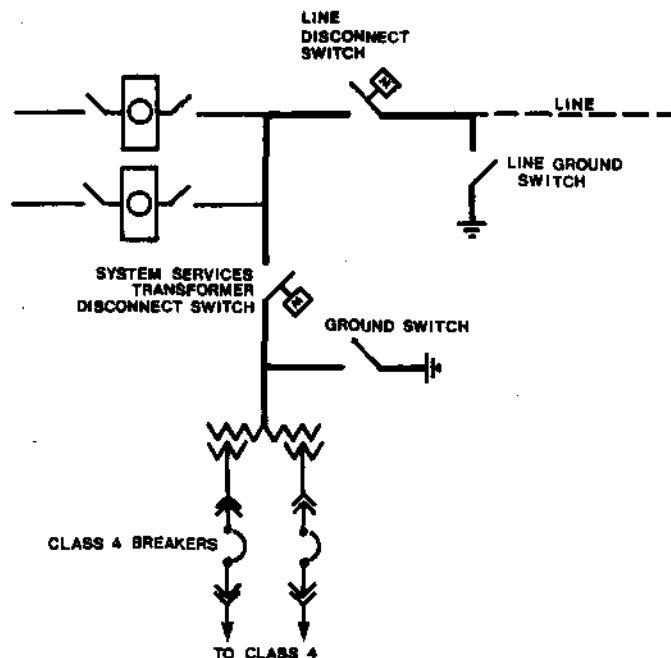

Figure 5: Transformer Disconnect Switch, Ground Switch and Class 4 Breakers.
5.4.1 Transformer Disconnect Switches. On the high voltage side of the system services transformer there is a disconnect switch. This disconnect switch provides isolation between the transformer, the switchyard and the line, see Figure 5. This particular disconnect switch is constructed to be able to break the transformer no load (magnetizing) current. It is not constructed to be able to break load or fault current and therefore, both the secondary winding breakers must be open before the transformer disconnect switch can be opened by motorized control.